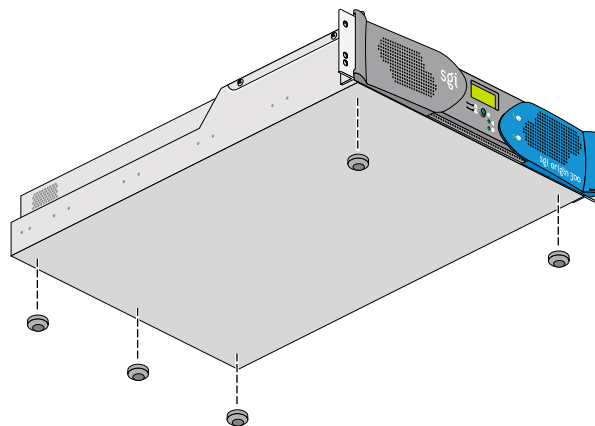

Figure 2-1 Location of Table-mounting Feet
2. Peel off the protective film from the feet and place them on the five circular marks as shown in Figure 2-1.